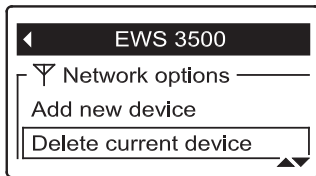

FIG. 76
3. Press the DOWN (▼) button to scroll through the menu options until **Delete current device** is highlighted in a box (See Figure 76).